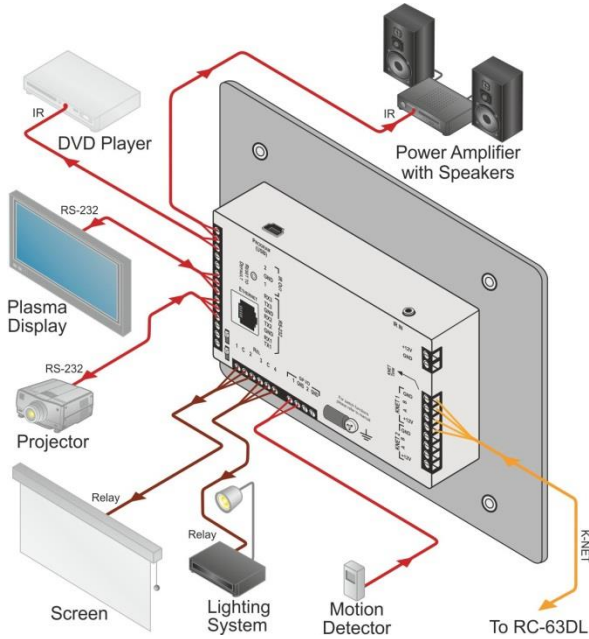

Figure 3: Connecting the RC-74DL Master Room Controller
To connect the **RC-74DL**, as shown in Figure 3, do the following:
5. Connect the Ethernet port to a network (not shown in Figure 3).